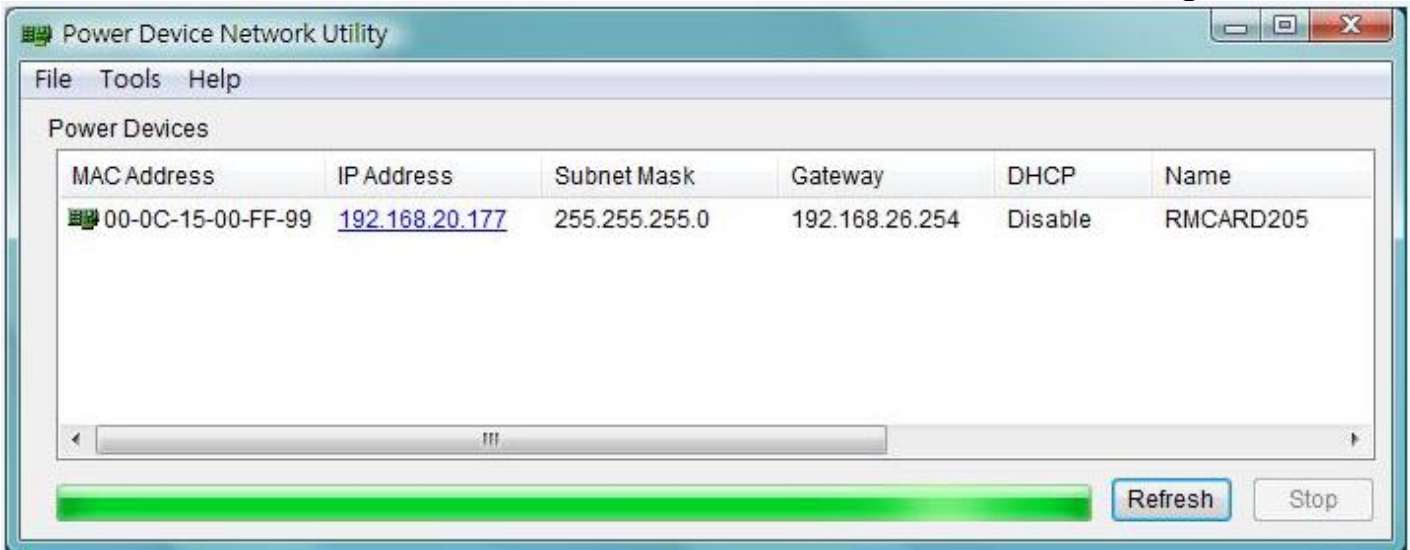

Figure 1. The main window of the “Power Device Network Utility” program.
3. The main dialog of the Power Device Network Utility Tool program is shown in Figure 1. The configuration tool will display all CyberPower Remote Management devices present on the same network subnet. The "Refresh" button is used to search the local network subnet again.